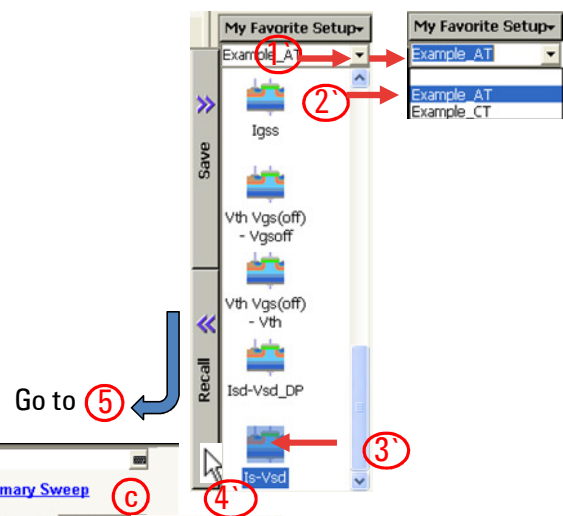

Figure 3-48. Is-Vsd Application Test setup.
The actual test is performed by sweeping the drain for negative voltage while the source and the gate are kept in zero volts as shown in figure 3-48 EasyEXPERT GUI. The result is the same as applying positive voltage to Source while the Source and the Gate is shorted.
Setup and execute the test by following the next steps. The same instruction steps are illustrated by the numbers on the "1. Starting from Application Test Library" side of figure 3-48.
Step 5. Set the test parameters shown in figure 3-48 to an appropriate one depending on your B1505A configuration and your test device.
Setup and execute the test by following the next steps. The same instruction steps are illustrated by the numbers on the "1`. Starting from Application Test Library" side of figure 3-48.